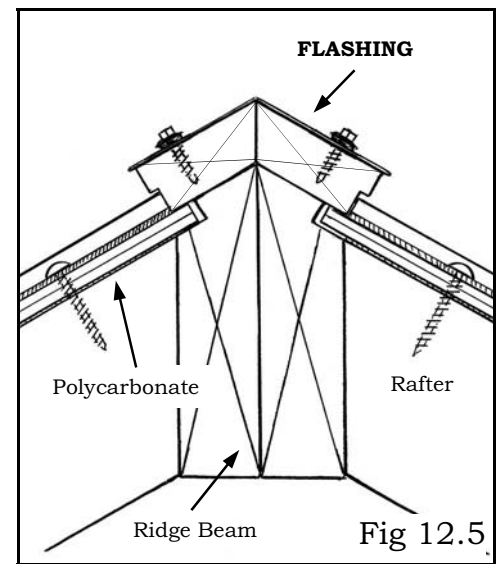

Fig 12.5
- E. Ridge – rip 5/4x6 decking board to make cap (**fig 12.5**).
- d. **Optional Metal Flashing** should be installed as shown in **Fig. 12.5**